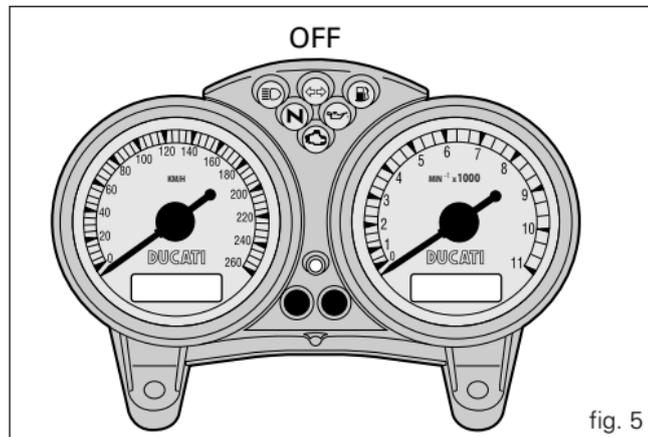
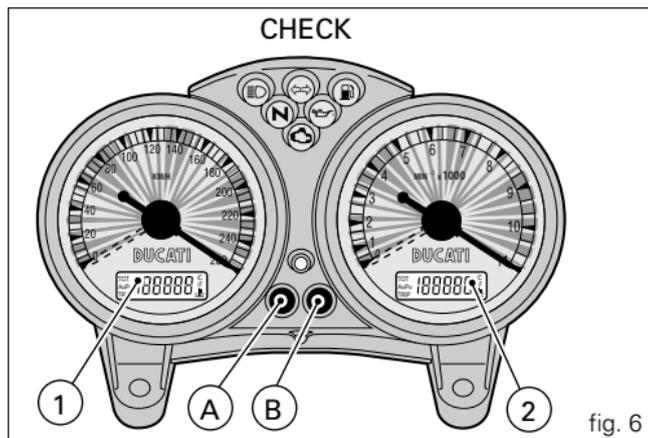

fig. 5
fig. 6
When the engine is switched on (key turned from **OFF** to **ON**), the instrument panel performs a check of all the instruments (dials, display, warning lights), see (fig. 5 and fig. 6).
By pressing button (A, fig. 6) with the key turned to ON, you can cycle between display of the trip counter and the odometer and, if the fuel level warning light is on, the fuel reserve trip counter.
If button (A, fig. 6) is held pressed for more than 2 seconds while the **TRIP** (trip meter) is active, the display is reset (LCD 1).
If button (B, fig. 6) is pressed with the ignition key at ON, the display shows the clock and the oil temperature.
Press (B, fig. 6) for at least 2 seconds and the time will be shown in display (2, fig. 6).
Select AM/PM by pressing button (A, fig. 6). Press button (B, fig. 6) to select the hour setting function. Press (A) repeatedly to change the hour indication. Press button (B) to change to the minute setting function.
When the fuel level warning light illuminates, the word "FUEL" appears on display (2, fig. 6) and the fuel reserve trip counter function will be activated and indicate on display (1, fig. 6) the number of kilometres travelled in reserve preceded by the letter "F" (FUEL).
The "MAInt" message on display (1, fig. 6) indicates that the service interval has been reached: it will be displayed for 5 seconds each time the ignition is switched on. When the "MAInt" message is displayed, contact an authorised dealer or service centre.
Press button (B, fig. 6) within 5 seconds after the ignition key is turned to the ON position to adjust the brightness of the backlight. The brightness changes at each press of the button.